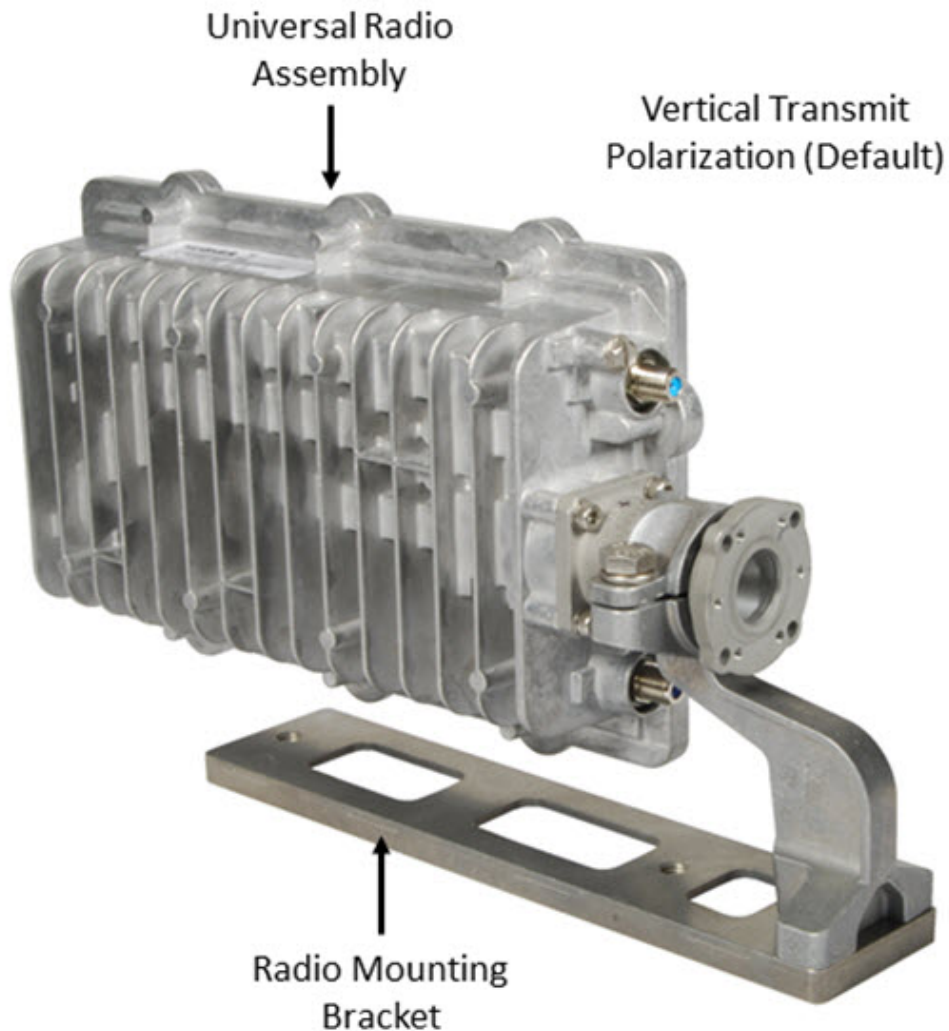

Figure 1: Cradle-type Universal Radio Assembly in the default shipping configuration
The section explains how to install the cradle-type Universal Radio Assembly. Figure 1 shows an assembled cradle-type Universal Radio Assembly with radio mounting bracket.
**Note:** The default shipping configuration of the cradle-type Universal Radio Assembly is in the vertical transmit polarization as shown in Figure 1.
**Note:** The default shipping configuration of the cradle-type Universal Radio Assembly is in the vertical polarization as shown in Figure 1.